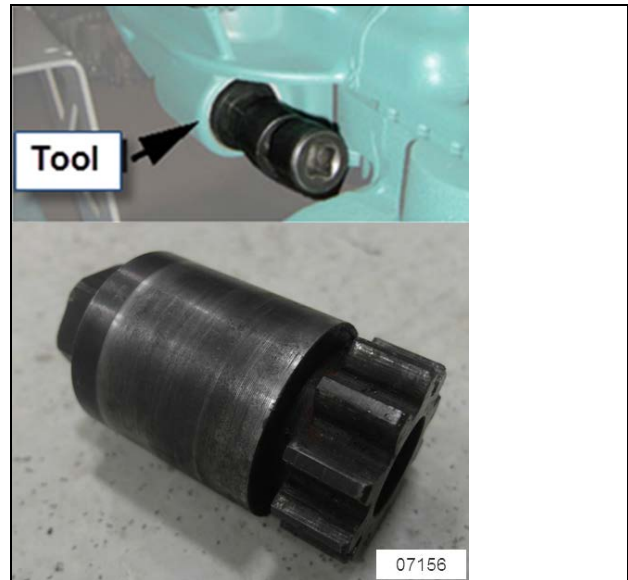

FIGURE 10: VOLVO ENGINE TURNING TOOL #88800014
3. With the engine starter removed, use Volvo engine turning tool #88800014 (Figure 10) to align one of the 12 attaching screw holes in the flex plate with the engine starter access
- Remove the headless guide bolt from the flex plate adapter through the engine starter access opening. Replace it with a self-locking screw, finger-tighten then start the remaining screws. Use Volvo engine turning tool #88800014 (Figure 10) to align holes. If you do not have the Volvo tool, place a wrench on the crankshaft pulley attaching screw to turn it and therefore turn the flex plate.